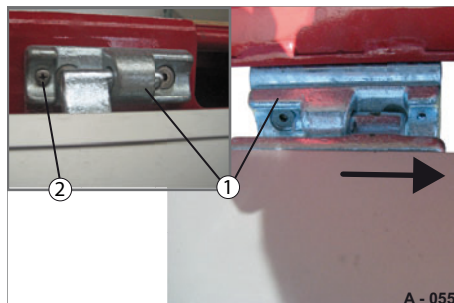

Fig. 50 Platform gate released on hinge
- ▶ Release the screw (Fig. 50/2).
- ▶ Slide the platform gate into the hinges (Fig. 50/1).